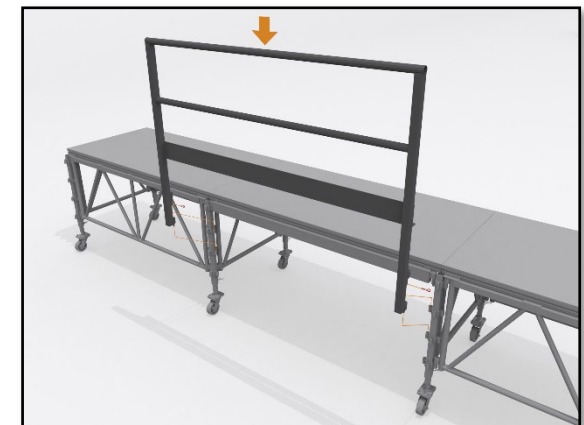

Fig. 34 – Handrail Installation
9.2.1 The Node Post has 4 off vertical sets of connection holes. The top and bottom positions are for Gates and Beams. Handrails locate on to the mid positions (Holes 2 & 3). *Fig. 34 – Handrail Installation*